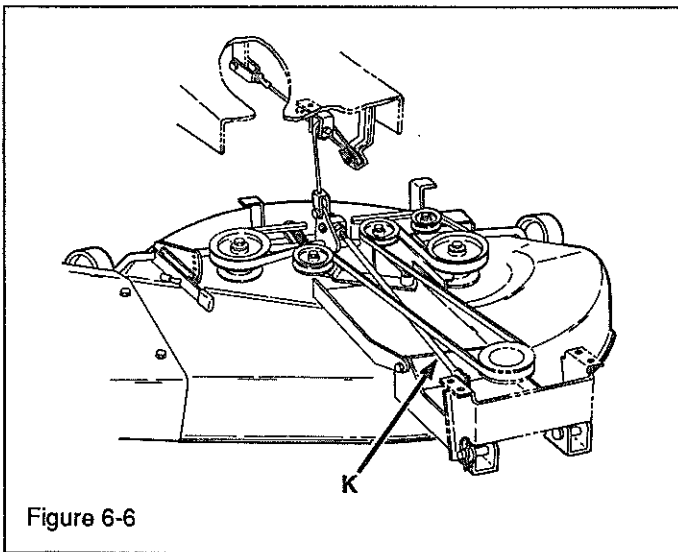

Figure 6-6
- d. Both measurements should be equal. If not, adjust length of rod (K, Figure 6-6) at pivot (L).